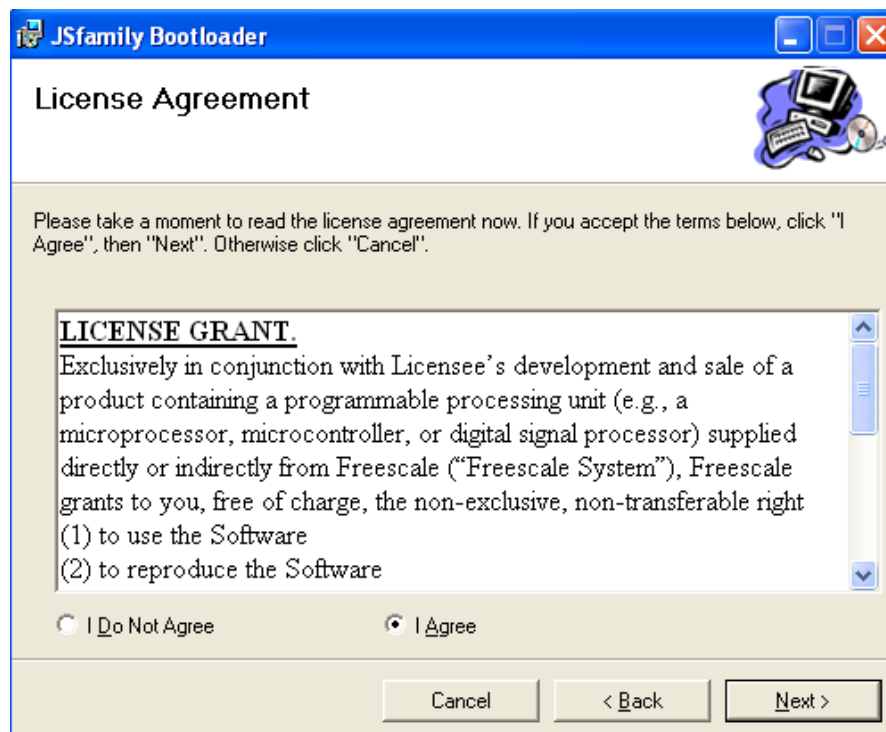
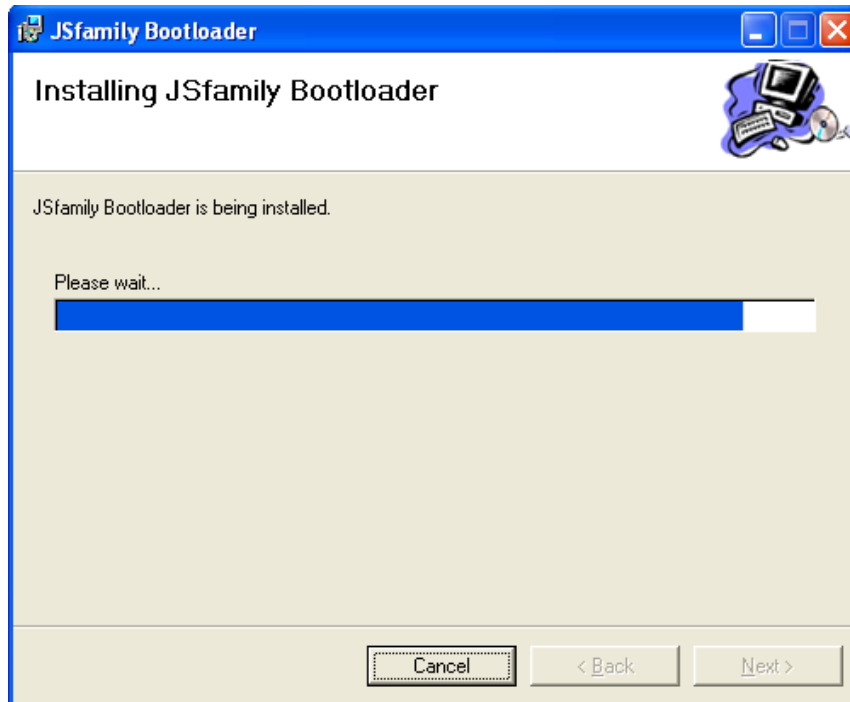

Figure 4. License Agreement
Figure 5. Installing the Bootloader
- Click the Next button in the License Agreement (Figure 4). The installation wizard begins to copy the files to the folder configured in step 2 (Figure 5).